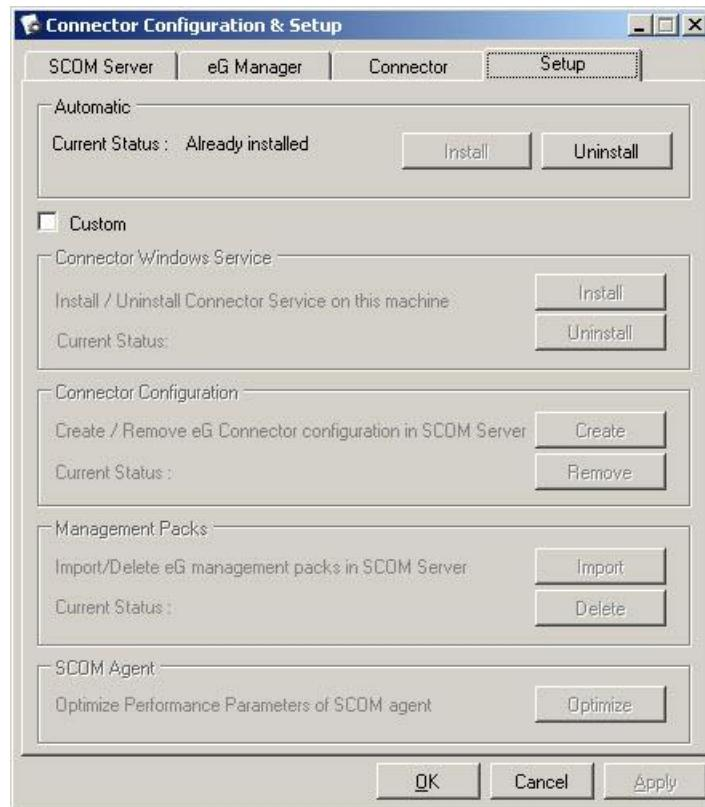

Figure 4.1: Clicking on the Setup tab page for uninstalling the connector configuration
2. When the **Connector Configuration & Setup** dialog box appears (see Figure 4.1), click on the **Setup** tab page therein.
3. Click on the **Uninstall** button in the **Automatic** section of Figure 4.1. This will invoke Figure 4.2, which will list all the **Tasks** the uninstallation will perform.